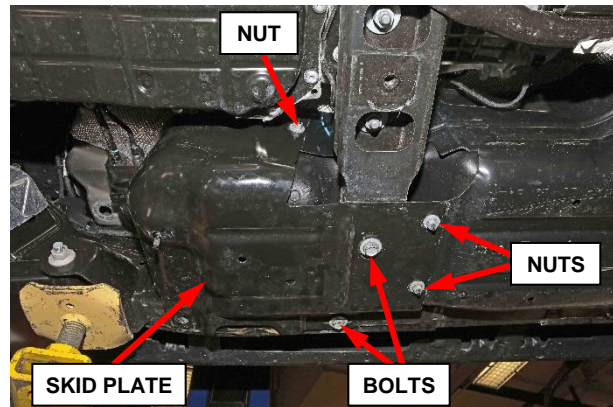

Figure 5 – Fuel Tank Front Skid Plate
4. Remove the fasteners, two bolts and three nuts securing the fuel tank front skid plate then remove the skid plate from the vehicle (Figure 5).
6. Position the fuel tank front skid plate to the vehicle then install and tighten the fasteners, two bolts and three nuts (Figure 5).
4. Position the fuel tank front skid plate to the vehicle then install and tighten the fasteners, two bolts and three nuts (Figure 5).